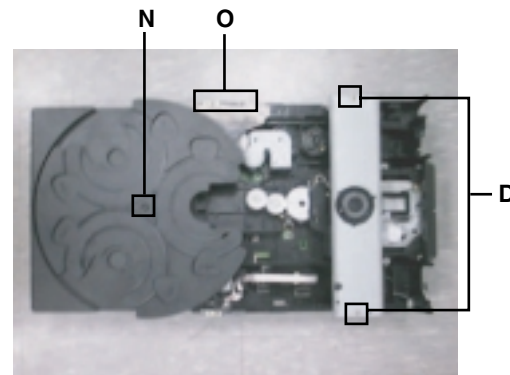

Fig.19
■ **Replacing the CD turn table and removing the motor (See Fig. 19 and 20)**